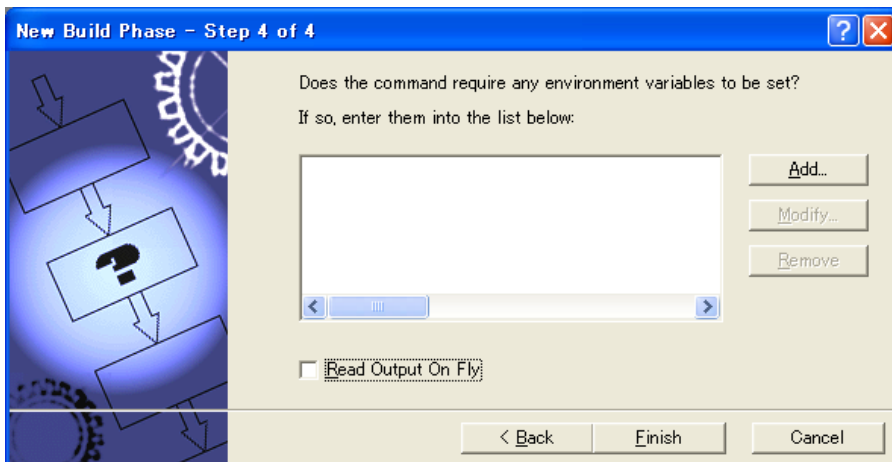

Figure 5 [New Build Phase] Dialog Box (Step 4)
- (5) The dialog box for setting environment variables required for the phase is opened (Figure 5), but leave this field blank and click [Finish] button.